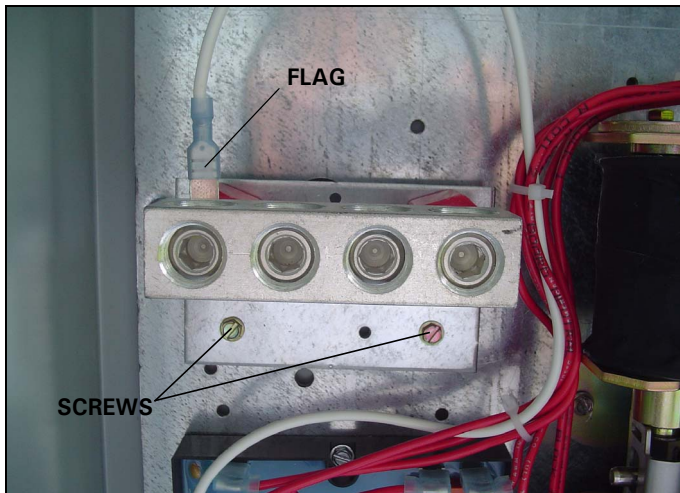

Figure 28. Replacing the 200 A Neutral Bar.
Step 3: Disconnect the flag from the wire terminal on the back of the neutral bar (see Figure 28).
Step 5: Remove the two (2) screws securing the neutral bar bracket to the base plate (see Figure 28) using a blade screwdriver or 0.25 in. socket or nut driver. Remove the neutral bar.